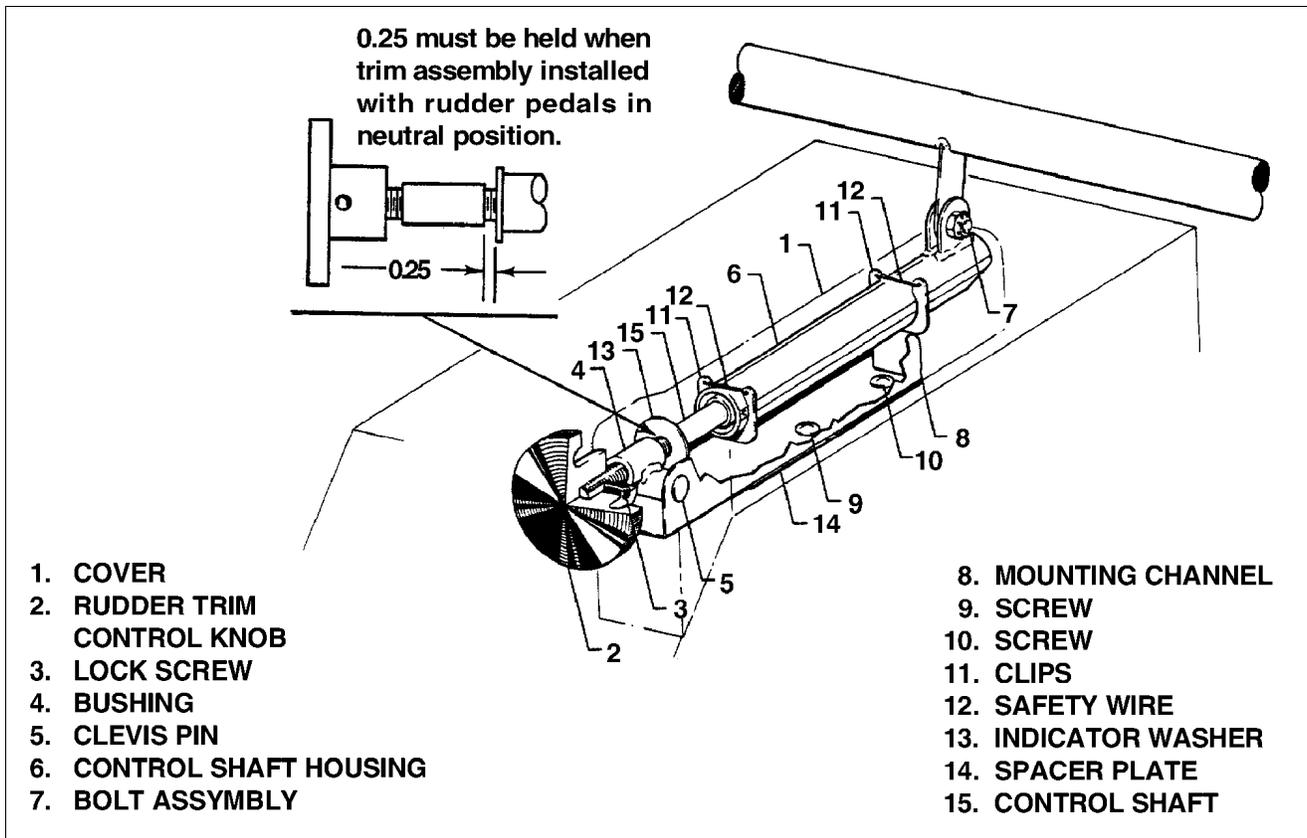

Figure 27-17. Rudder Trim Control
1. To remove Rudder Trim Control (Refer to Figure 27-17.)
2. To Install Rudder Trim Control. (Refer to Figure 27-17.)
- (1) Install the clevis pin and cotter pin.
- (2) Check that dimensions noted in Figure 27-17 are maintained.